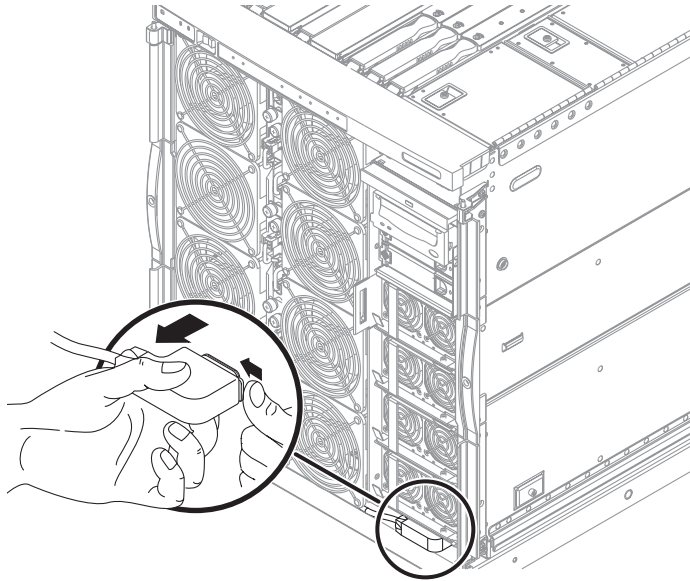

FIGURE 7-5 Removing the Fan Tray Power Connector
5. Unlatch and disconnect the fan tray power connector (FIGURE 7-5).
6. Connect the fan tray power connector. Lock it by pushing it slightly upwards while pressing the locking clip to the right with a screwdriver (FIGURE 7-5).